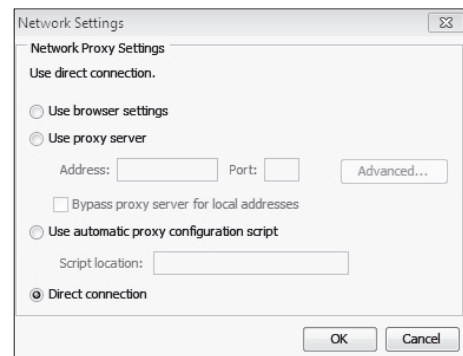

Fig. 67 — Network Settings
- **Network settings:** In the Java Control Panel, click Network Settings. Select a direct connection to bypass the proxy server or select the automatic configuration script. See Fig 67.